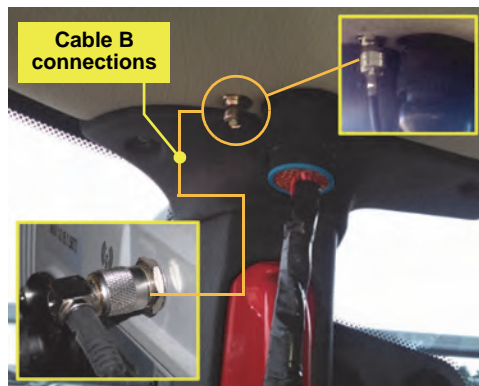

Figure 2a: Antenna internal connections
- b. Install the antenna internal cable **B** between the MAX's antenna cable connector (elbow end, see inset) and the antenna cable connector in the roof of the machine next to the ISO connection (Figure 2a).